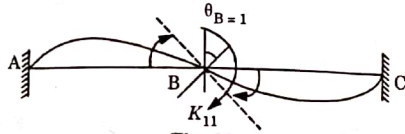

Fig. 26.
- ii. To obtain stiffness matrix $[K]$, apply unit displacement in the coordinate direction as shown in Fig. 26.